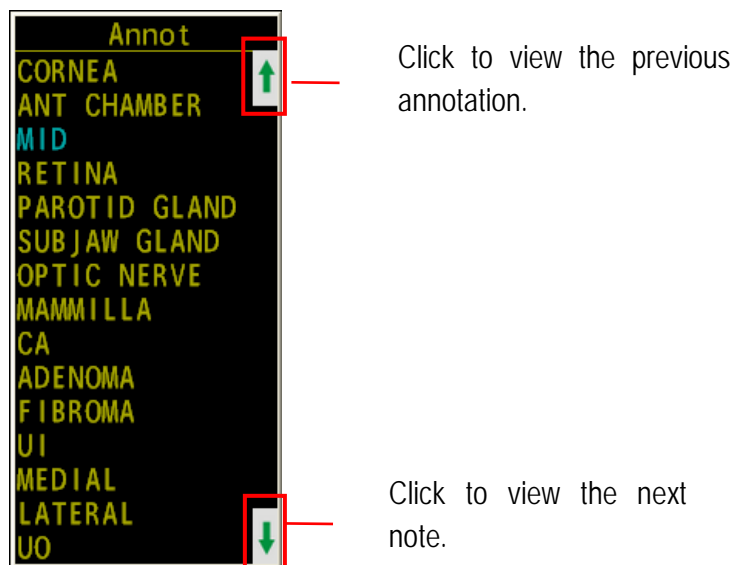

Figure 84: Annotation selection window
- b) **Add preset annotations:** When in Live or Freeze mode, click on **Annot** and then on **Menu** to open the list of preset annotations in the selection window. The preset annotations are displayed on the screen. See Figure 84. Press **Set** to activate the cursor, then use the trackball to move the cursor to the desired annotation (if the desired annotation is not available, follow the instructions in *Section 5.2.9 Annotation Setup*). To select, click on **Set**. Move the cursor with the selected annotation to the desired position and click on **Set** to attach the annotation.